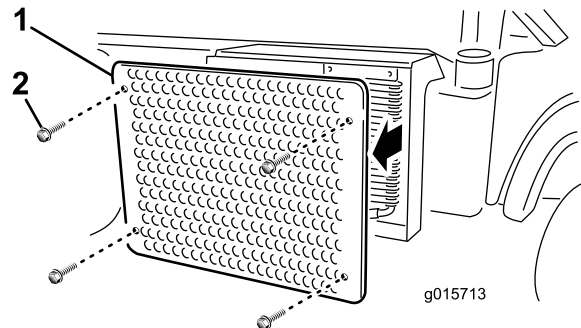

Figure 49
2. Remove the (5) bolts securing radiator screen/guard to the radiator. The guard is not shown in the figure. (Figure 49). Remove the screen/guard.